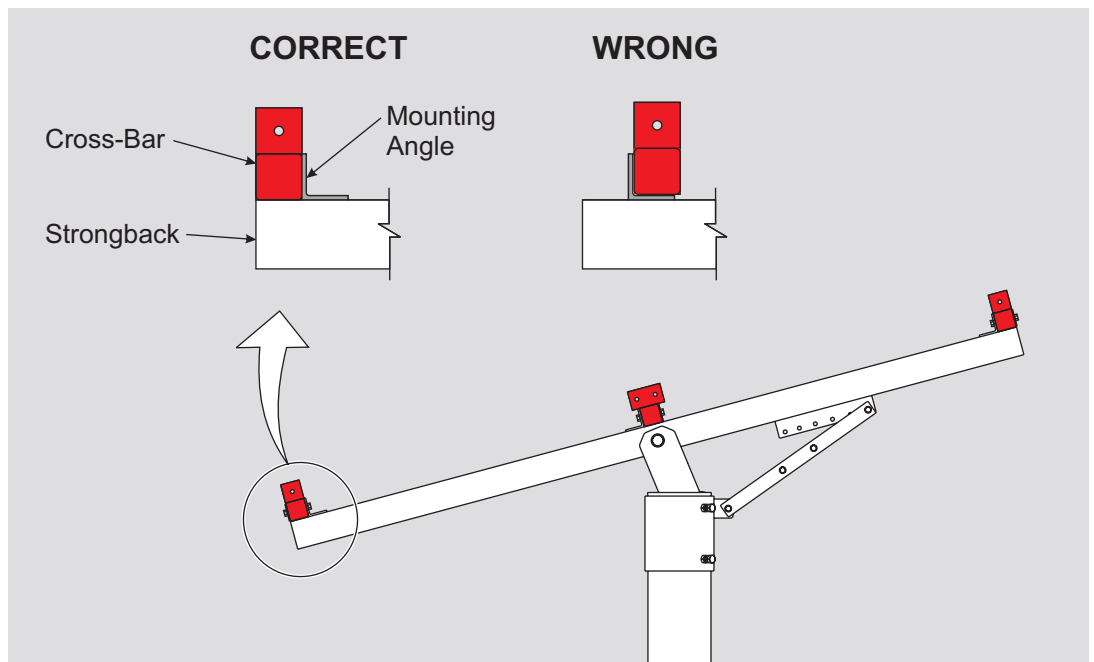

Figure 3-2: Cross-Bar Positioning relative to Mounting Angles
Cross-Bars are mounted to the outside of the Strongback mounting angles (these are welded to the Strongback); they are not nested into the Mounting Angles. (See Figure 3-2)
- Continue using these steps to install the north and south most Cross-Bars to the Strongback. Refer to Figure 3-2 as needed for proper positioning.